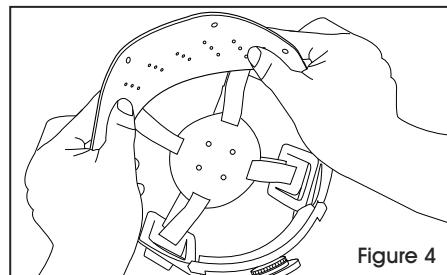

Figure 4
3. Pull the sweatband over the front of the suspension. Press so it conforms to the shape of the suspension. (See Figure 4)